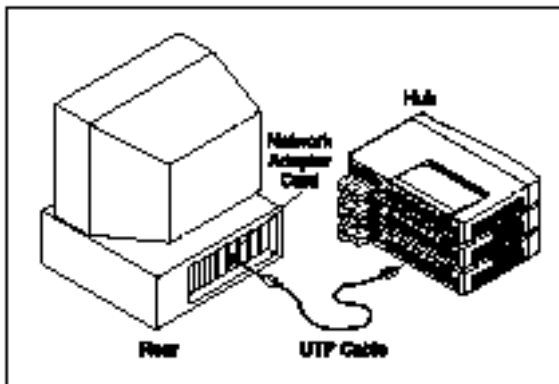

Figure 2-10 Connect to computers
2.3.2 See if the computer is working and find the RJ-45 connector of the adapter card in computers. You can connect UTP (Unshielded Twisted Pair) cables from normal ports of the hub to computers directly, as shown in *Figure 2-10*.